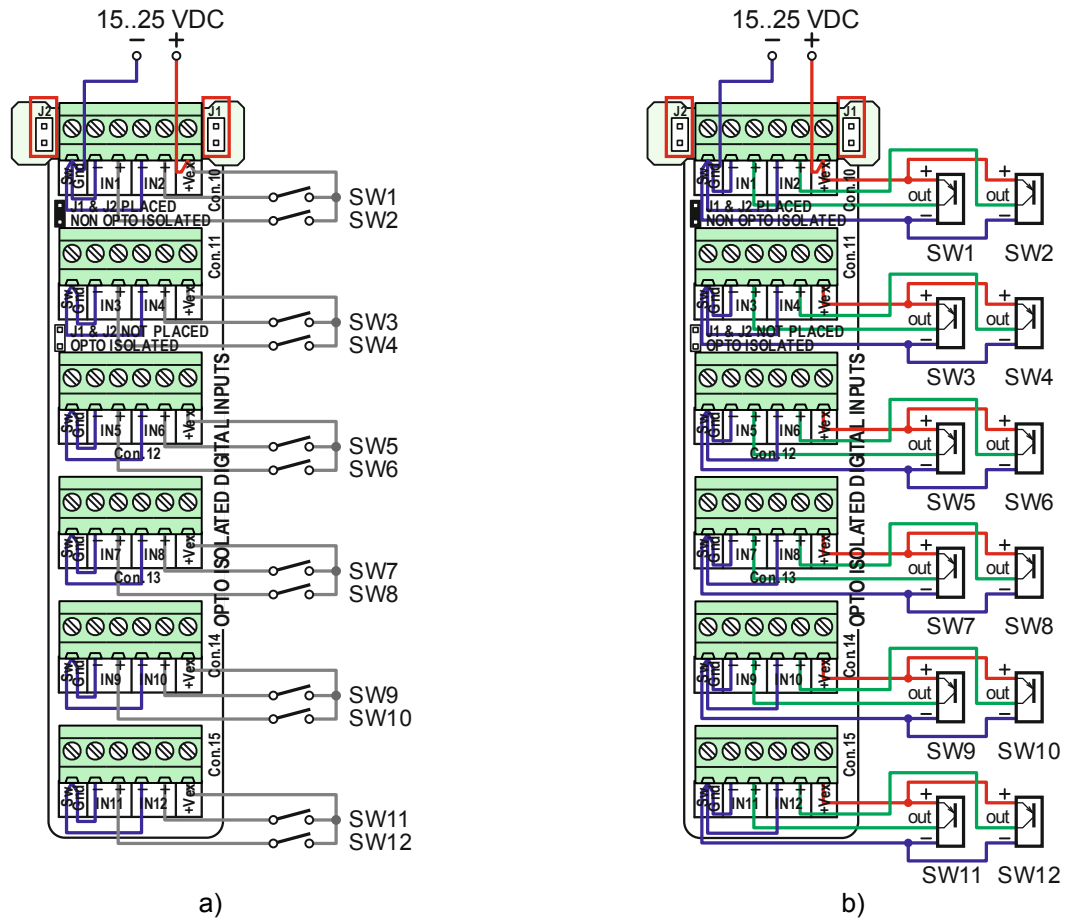

Figure 2.9 **Isolated mode** of wiring limit switches, a) electro-mechanical type and b) inductive type
**Isolated mode of wiring limit switches** to digital inputs IN1-IN12 implies usage of **additional power supply** with voltage in range of 18-24 VDC. Figure 2.9.a shows connection of electro-mechanical switches, while Figure 2.9.b shows a possible way of connecting inductive switches to digital inputs IN1-IN12 in **isolated wiring mode**.
**IMPORTANT NOTE:** When connecting limit switches in **isolated mode** (Figure 2.9.a and Figure 2.9.b) it is required to **remove jumpers from locations J1 and J2**.